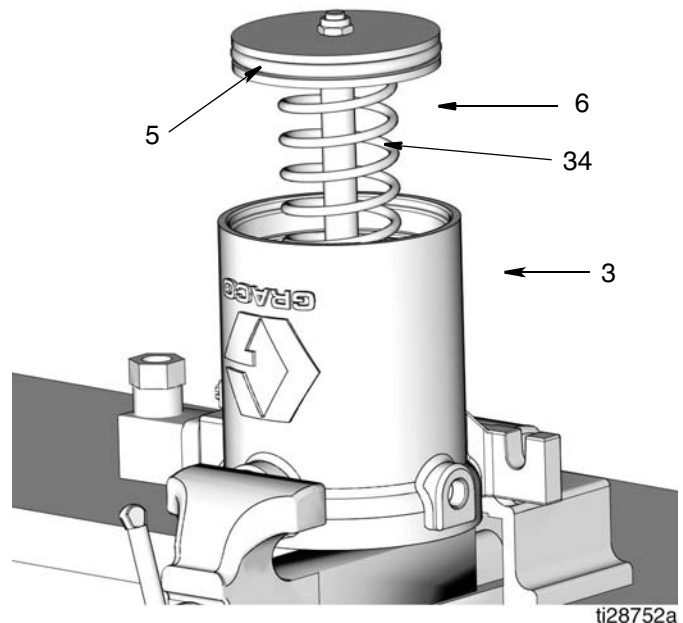

FIG. 20
NOTE: There is a spring (6) (FIG. 20) inside the air motor cylinder (3) under the piston (5). Hold your hand on the cover (1) for resistance and to hold it down while loosening the cover screws (1a) (FIG. 20).
20. Piston Rod O-Ring (36) and Piston Seal (4)
- Remove piston rod (34) and piston (5) and spring (6) from air motor cylinder (3) (FIG. 20).